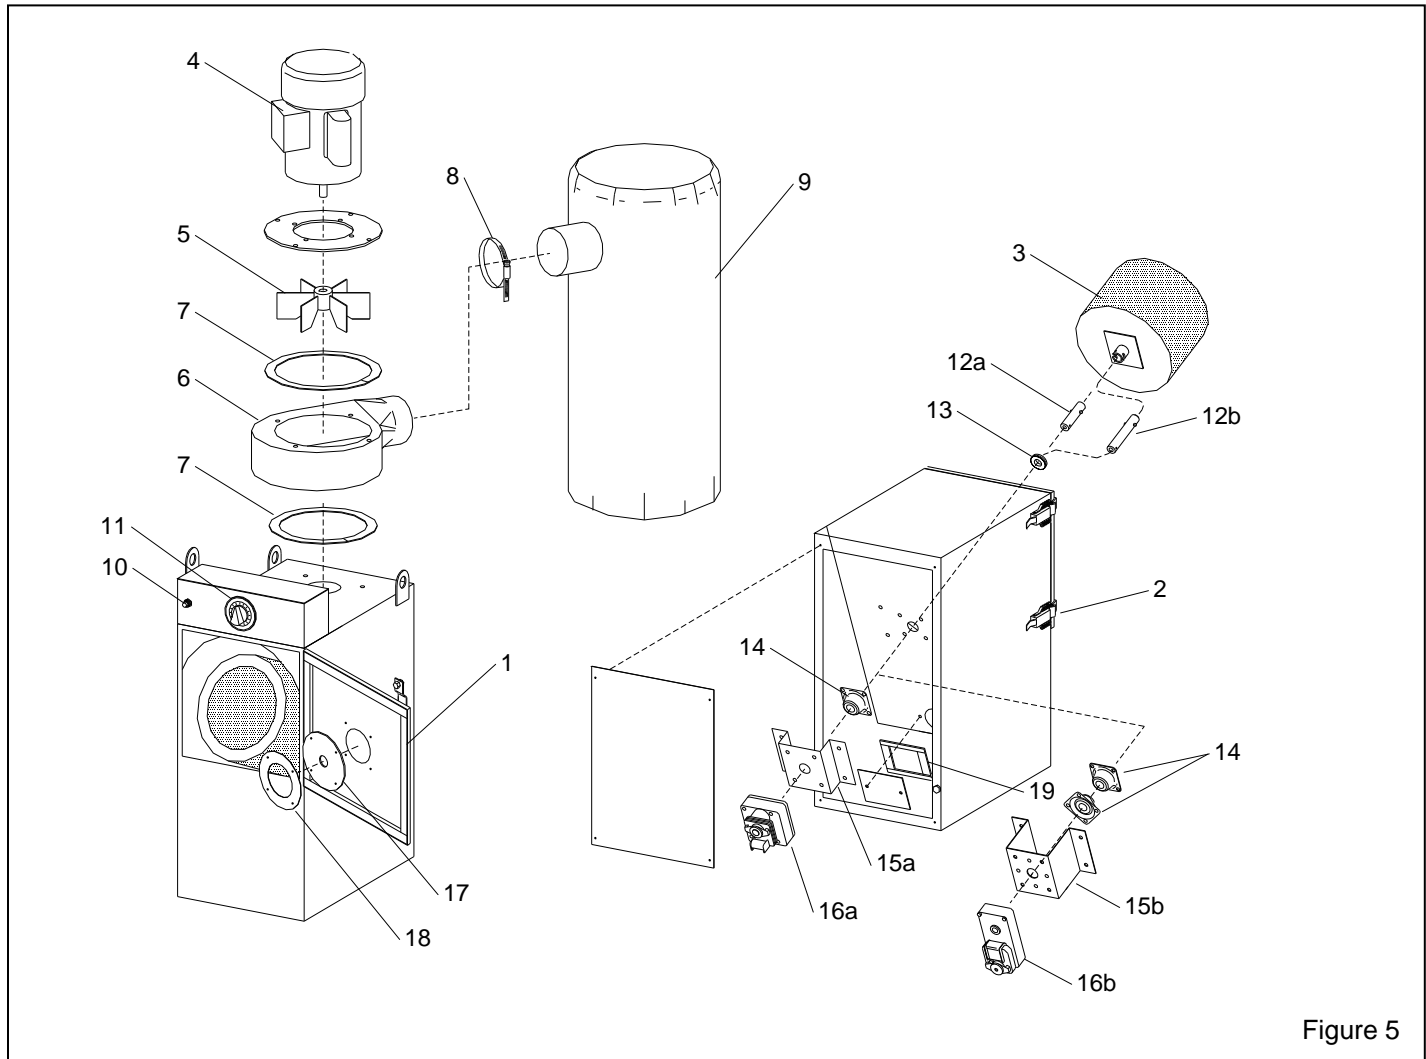

Figure 5
7.2 Cabinet and barrel Assembly, Figure 5